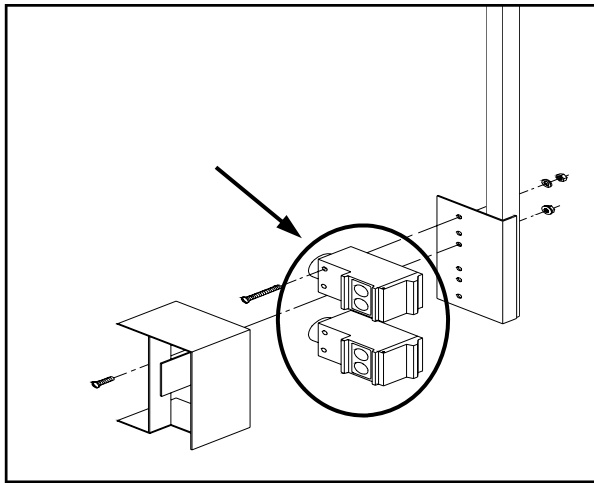
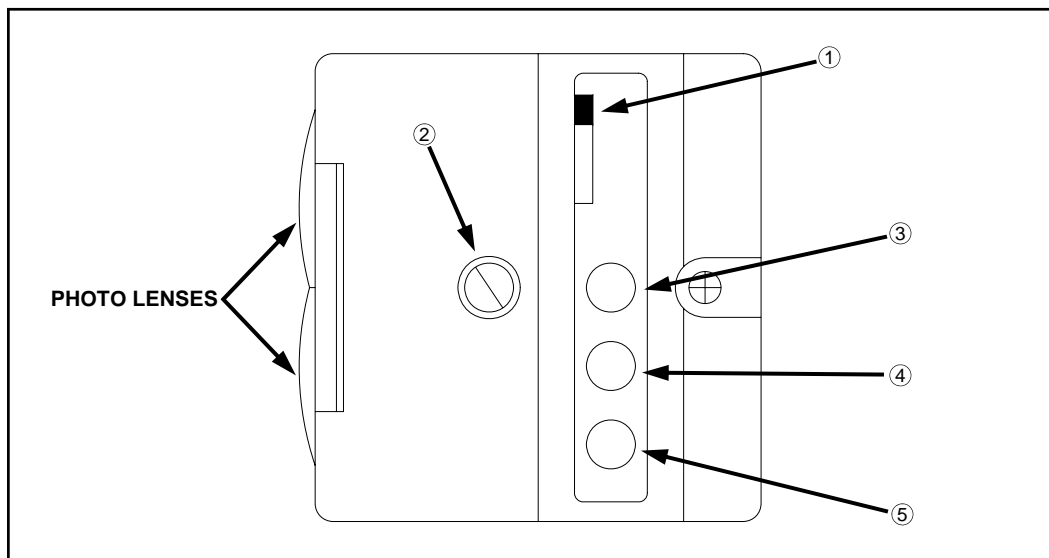

FIG 5.55
FIG 5.57
The upper and lower LS photolights (fig. 5.55) have L.E.D. lights (fig. 5.57) that indicate their operational status.
LT/DK SWITCH – Light/Dark switch on photolight (fig. 5.57, item 1) changes the activated condition of green L.E.D. (see below) from *ON* (“LT”) to *OFF* (“DK”). Switch does not affect the functional operation of the light, only how it is displayed. Switch should be set to “LT”.
SENSITIVITY ADJUSTMENT SCREW – Sensitivity adjustment screw (fig. 5.57, item 2) should always be set to maximum.
YELLOW L.E.D. – Yellow L.E.D. (fig. 5.57, item 3) indicates power on.
GREEN L.E.D. – Green L.E.D. (fig. 5.57, item 4) indicates output energized (sending a signal to Tassel-trol[®] box, opening the raise or lower stack valve).
RED L.E.D. – Red L.E.D. (fig. 5.57, item 5) indicates photolight is receiving reflected signal.